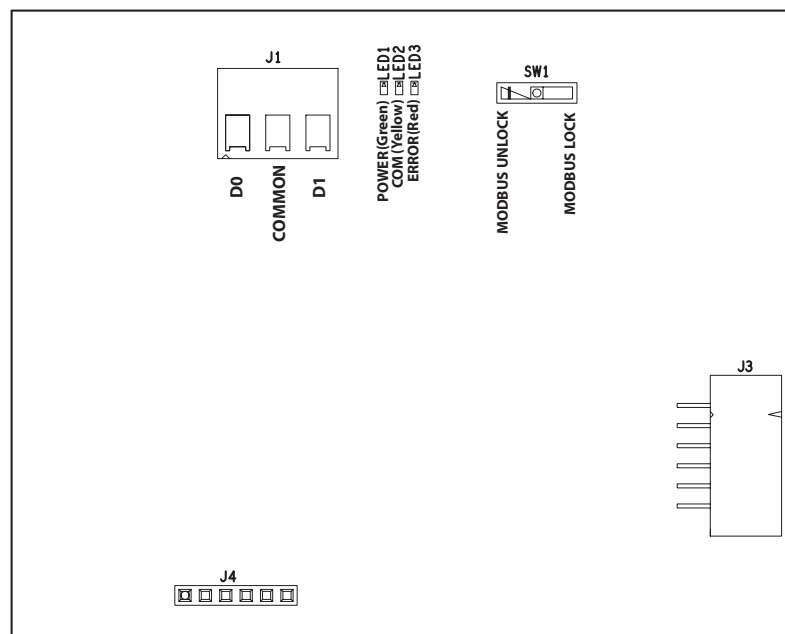

Figure 1 - Connection Diagram
1.5 CIRCUIT BOARD ATTRIBUTES (SEE FIGURE 1)